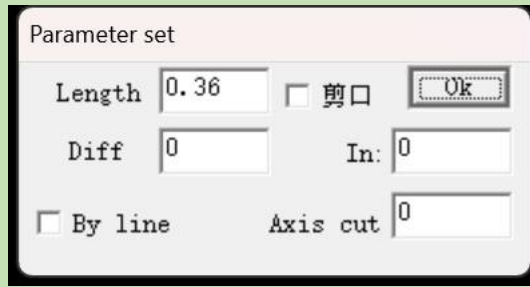

Figure5-12
3. Enter the length of the axis of symmetry, as shown in Figure 5-12.